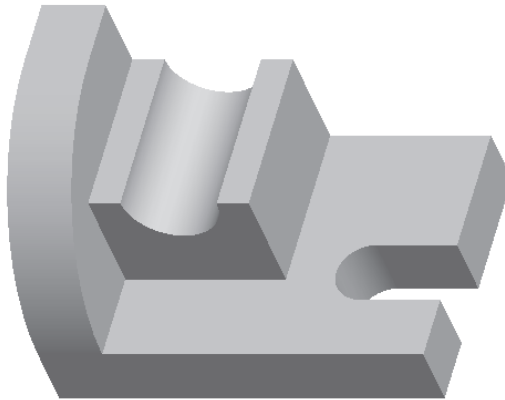

Figure 5-85 Model with the third extruded feature
6. Choose the **Build feature** button from the **Extrude** dashboard to confirm the feature creation. Choose the **Named View List** button from the **View** toolbar; a flyout is displayed. Choose the **Default Orientation** option from the flyout; the default view of the model is displayed, as shown in Figure 5-85.